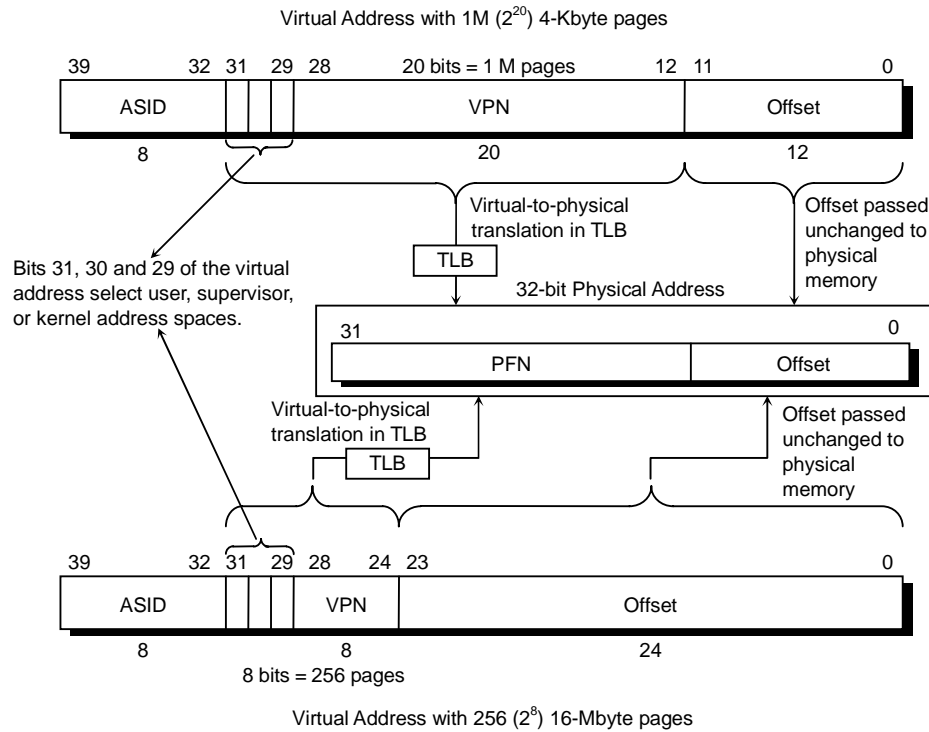
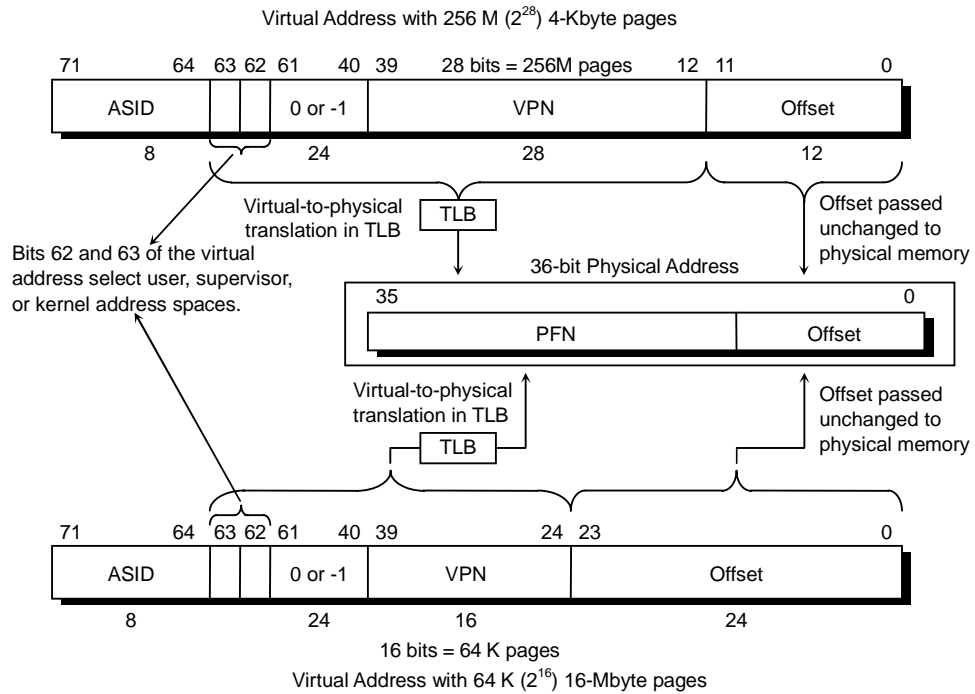

Figure 4.1.2 32-bit Mode Virtual Address Translation
Figure 4.1.3 64-bit Mode Virtual Address Translation
As shown in Figure 4.1.2 and Figure 4.1.3, the virtual address is extended with an 8-bit address space identifier (ASID), which reduces the frequency of TLB flushing when switching contexts. This 8-bit ASID is in the CP0 EntryHi register, described later in this chapter. The Global bit (G) is in the EntryLo0 and EntryLo1 registers, described later in this chapter.
Figure 4.1.2 shows the virtual-to-physical-address translation of a 32-bit mode address. This figure illustrates two of the possible page sizes: a 4-Kbyte page (12 bits) and a 16-Mbyte page (24 bits).
- The top portion of Figure 4.1.2 shows a virtual address with a 12-bit, or 4-Kbyte, page size, labeled *Offset*. The remaining 20 bits of the address represent the VPN, and Index the 1M-entry page table.
- The bottom portion of Figure 4.1.2 shows a virtual address with a 24-bit, or 16-Mbyte, page size, labeled *Offset*. The remaining 8 bits of the address represent the VPN, and index the 256-entry page table.
Figure 4.1.3 shows the virtual-to-physical-address translation of a 64-bit mode address. This figure illustrates two of the possible page sizes: a 4-Kbyte page (12 bits) and a 16-Mbyte page (24 bits).
- The top portion of Figure 4.1.3 shows a virtual address with a 12-bit, or 4-Kbyte, page size, labelled *Offset*. The remaining 28 bits of the address represent the VPN, and index the 256M-entry page table.
- The bottom portion of Figure 4.1.3 shows a virtual address with a 24-bit, or 16-Mbyte, page size, labelled *Offset*. The remaining 16 bits of the address represent the VPN, and index the 64K-entry page table.